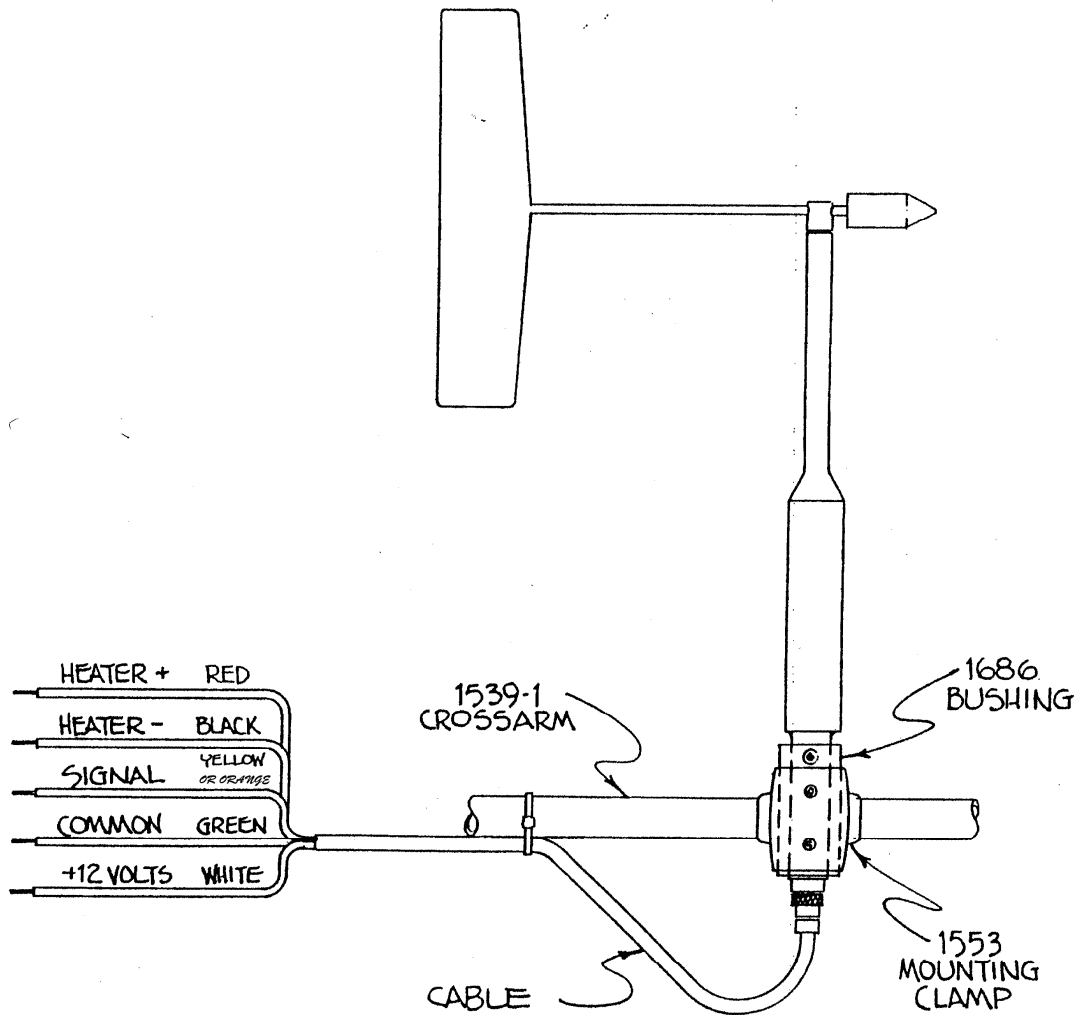

FIG. 2-1
- 1.2 The sensor cable has a quick-connect connector with vinyl-jacketed, shielded cable. Cable length is given in-XX feet on each cable part number. A 1957-XX cable is supplied for translators and data loggers having terminal strip connections. (Color code, Figure 2-1).
(Refer to Figure 2-1 "Typical 020D Installation"). The Orientation screw located on the stem of the sensor is to be oriented so that it points south. Proceed as follows:
The cable assembly contains five wires. Typical wiring hookup is shown in Figure 2-1.